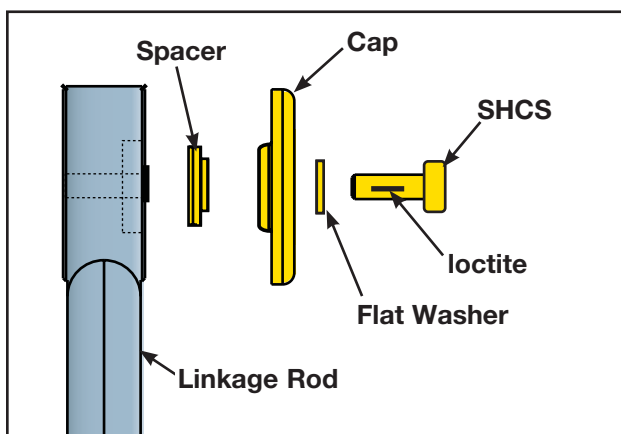

Figure 13
- C. Using a 3/16" Allen wrench, install SHCS, spacer, cap and washer (removed in steps 6A-6B). See Figure 13. **NOTE:** SHCS must be tightened to a minimum of 90 inch-pounds.
- C. Using a 3/16" Allen wrench, install SHCS, spacer, cap and washer (removed in steps 5A-5B). See Figure 13. **NOTE:** SHCS must be tightened to a minimum of 90 inch-pounds.